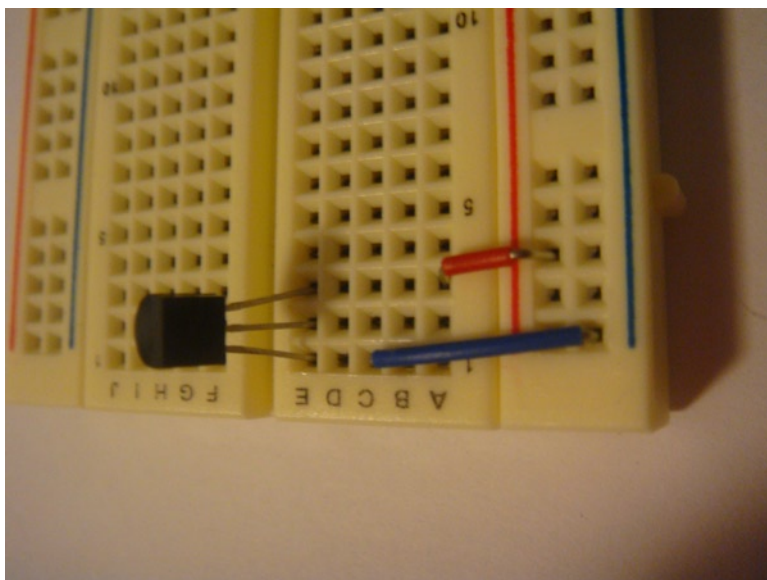

Figure 3-9. *Jumpers installed into the breadboard*
3. Breadboards make this type of prototyping work simple; they should be your second best friend (just don't let the data sheets know)! Next up, insert the jumper wire. In standard mode you need to feed the sensor power and provide a ground. So connect pin 1 to ground on the breadboard and connect pin 3 to your 3.3 V source. You can see how I have inserted my jumpers in Figure 3-9.